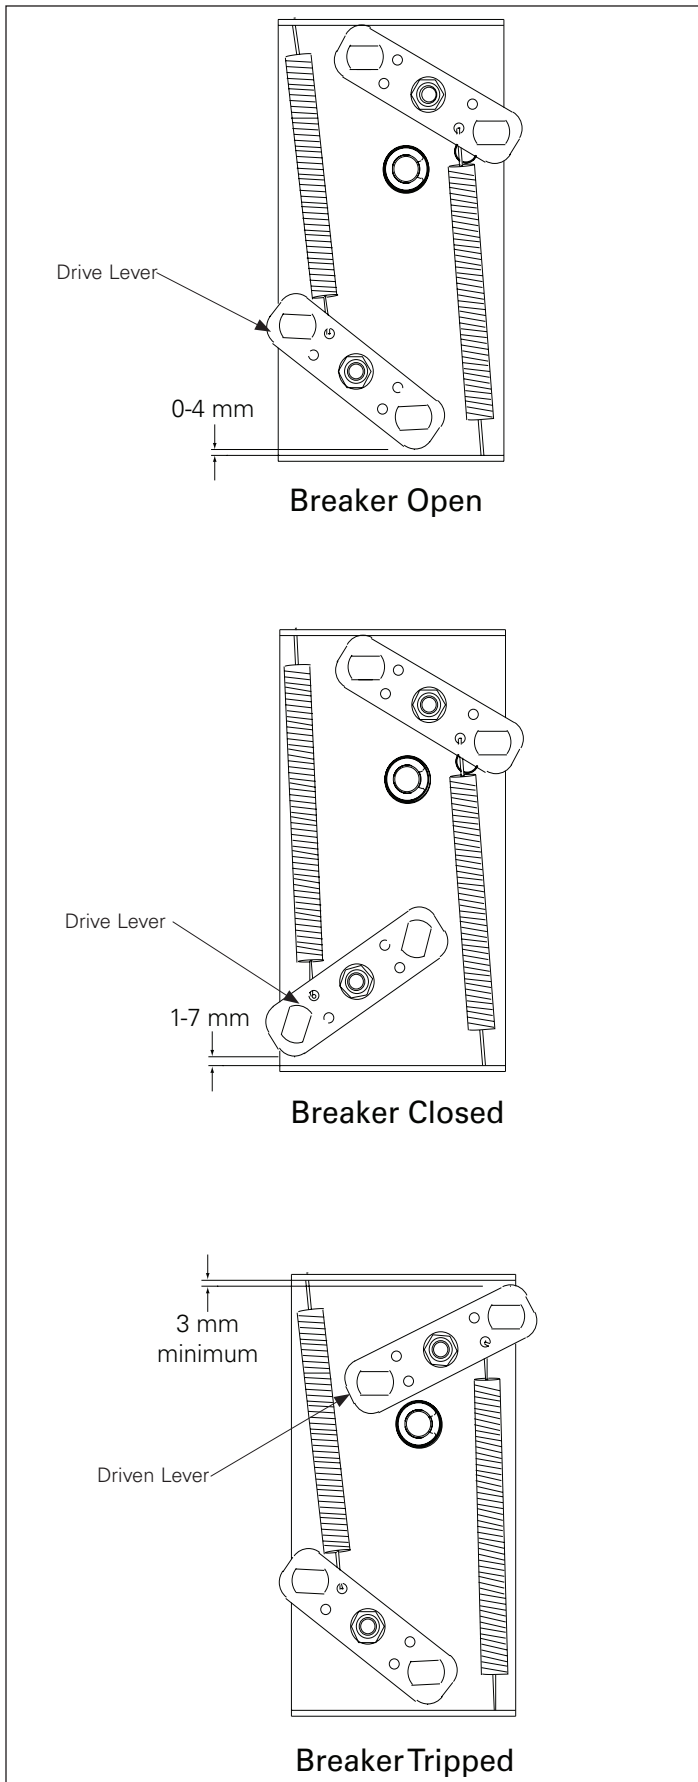

Figure 8. Step 7
Step 7: Check the functionality of the interlock assemblies by performing the following three checks. Refer to **Figure 8**:
- With the breaker still CONNECTED and OPEN, observe the position of the DRIVE (LOWER) LEVER. The gap between the lower right-hand corner of the drive lever and interlock assembly flange should be 0 – 4 mm (see **Figure 8, BREAKER OPEN**).
- Now charge and CLOSE the breaker, and the drive lever should rotate 60 degrees counterclockwise. The gap between the lower left-hand corner of the drive lever and the interlock assembly flange should be a 1 – 7 mm (see **Figure 8, BREAKER CLOSED**).
- If either of these gaps is out of specification, DO NOT CONTINUE THE INSTALLATION. Consult Eaton for additional instructions. To reach an EatonCare representative, call (877) 386-2273.